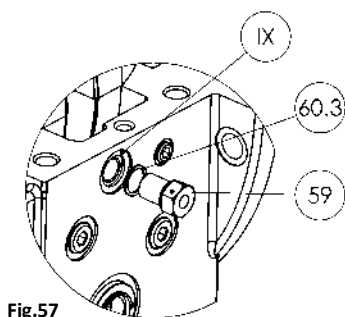

Fig.57
- For assembling the hose, connect the jacking adapter (59) with a copper ring (60.3) to the lower housing at connection IX (Fig.57).